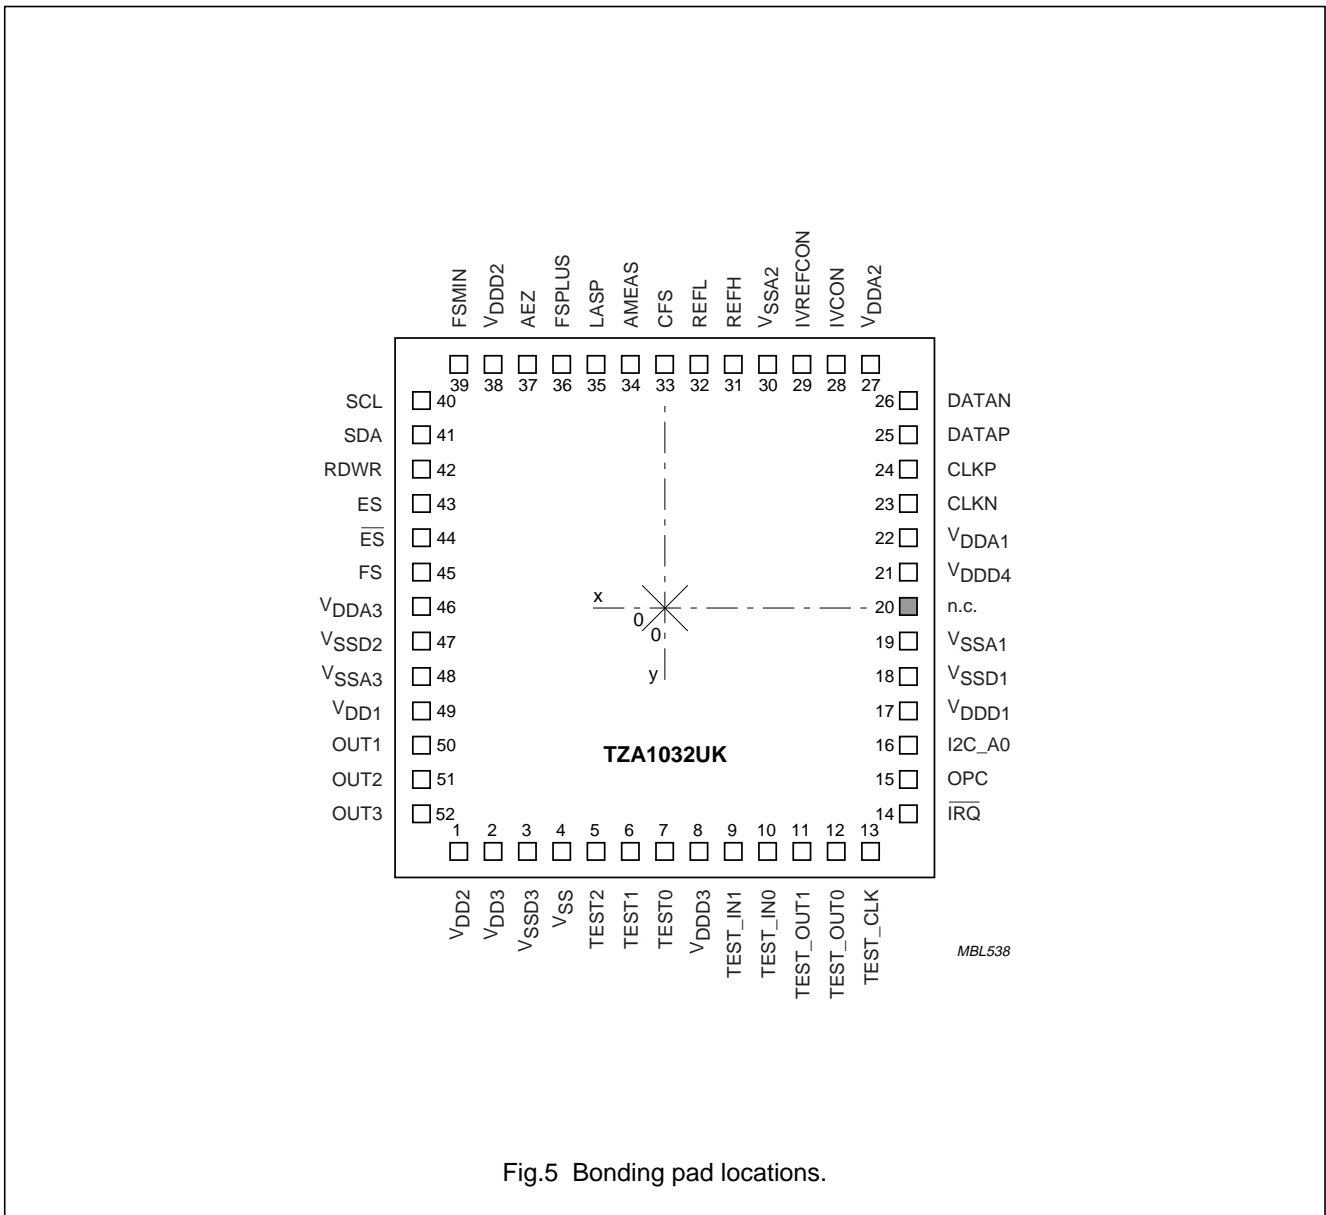

Fig.5 Bonding pad locations.
- All x and y coordinates represent the position of the centre of the pad in mm with respect to the centre of the die (see Fig.5).